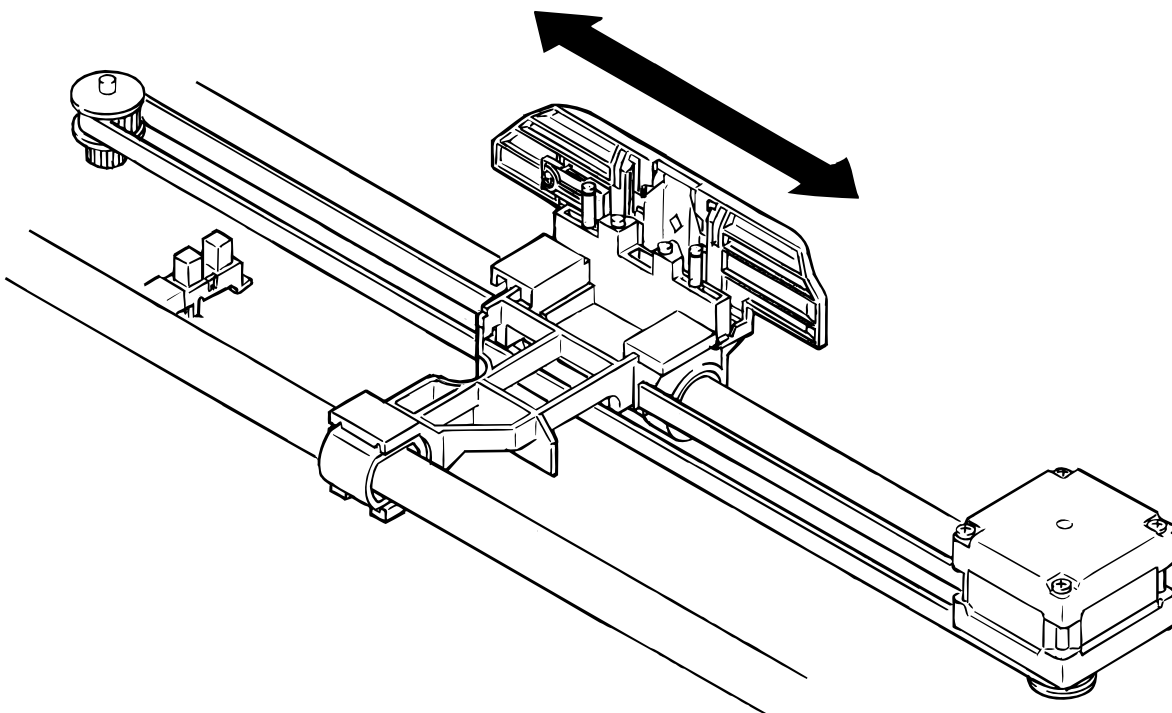

Figure 2-2 Carriage Movement Mechanism
| Figure 2-2. Carriage Movement Mechanism | 2-2 |
The carriage movement mechanism consists of the carriage assembly, carriage (CR) motor, timing belt, driven pulley, home position (HP) sensor, etc. The CR motor drives the timing belt. The carriage assembly is connected to the timing belt, which is moved by the CR motor. Figure 2-2 shows the carriage movement mechanism.